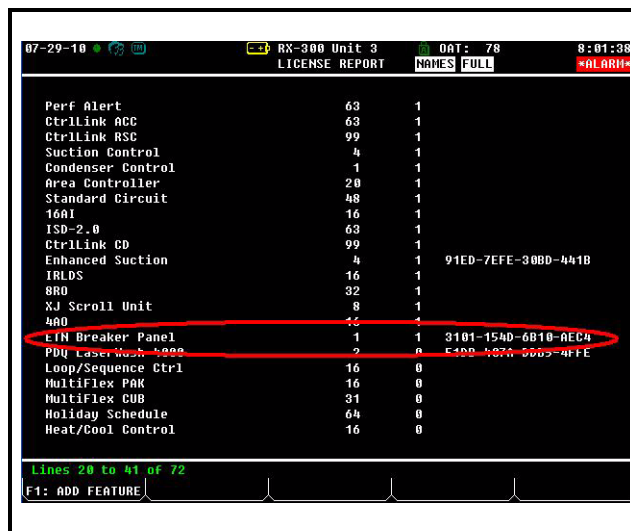

Figure 3-6 - License Report Screen
4. Reboot the controller and open the License Report screen again to see the license key appear next to the ETN Breaker Panel (Figure 3-6):